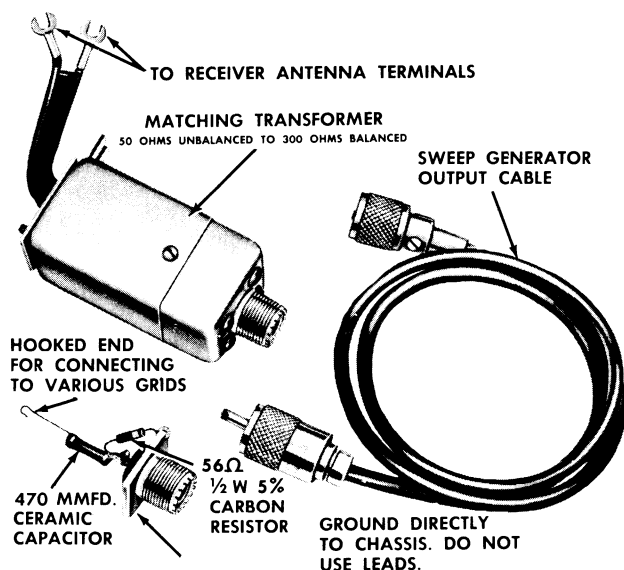
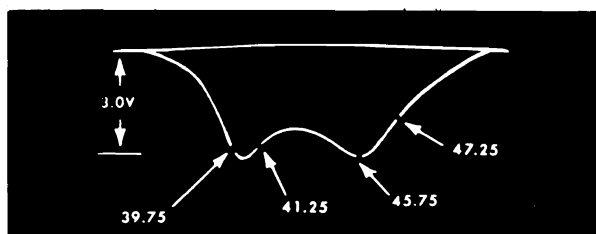
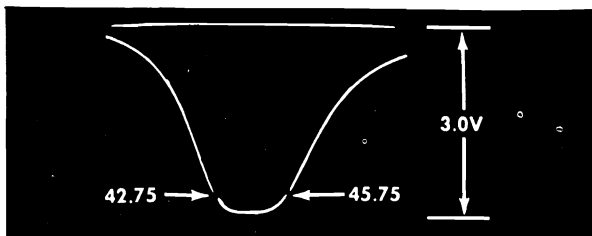

Fig. 1 Alignment Fixtures for RF-IF Alignment.
Fig. 2. 4th IF Response
Fig. 6 4th IF Response Curve.
3. Feed the sweep generator through a special terminating network as shown in Fig. 1. to Point "G" (Grid of the 3rd IF). Adjust generator to obtain a response similar to Fig. 2. with a detector output of 3 volts peak to peak. Do not exceed this level during any of the adjustments.
4. Set the marker generator to 45.75 MHz and alternately adjust the top and bottom cores of the 4th IF for maximum gain and symmetry with the 45.75 MHz marker positioned as shown in Fig. 2. The two peaks must be equal in height and the high frequency peak at 45.75 MHz. If the correct response cannot be obtained, check the position of the cores to see that they are not butted. The cores should be entering their respective windings from the opposite ends of the coils.
3. Feed the sweep generator through a special terminating network as shown in Fig. 1. to Point "G" (Pin 1 of the 3rd IF). Adjust generator to obtain a response similar to Fig. 6. Do not exceed the 3 volt peak to peak detector output during any of the following adjustments.
4. Set the marker generator to 45.75MH and alternately adjust the top and bottom cores of the 4th IF for maximum gain and symmetry with the 45.75 MH and the 42.75 Mc markers positioned as shown in Fig. 6. If the correct response cannot be obtained, check the cores to see that they are not butted but are entering their respective windings from the opposite ends of the coil.